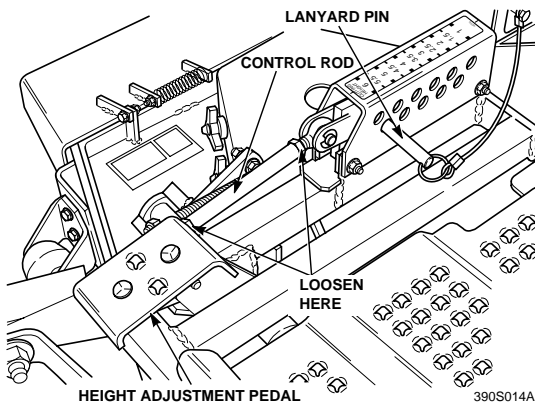
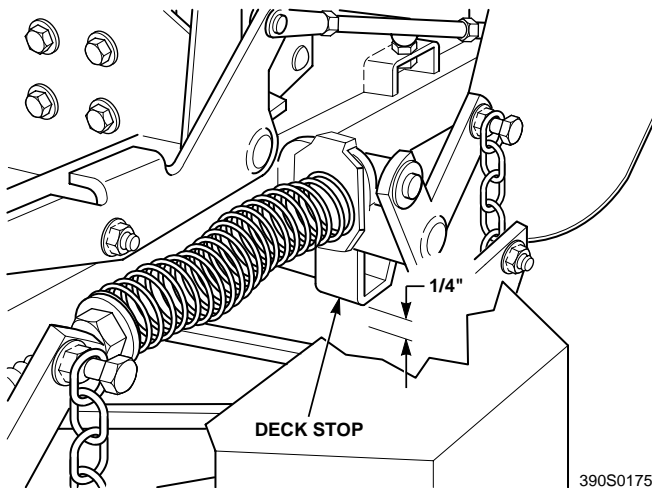

Figure 6-6. Cutter Deck Height Adjustment
Figure 6-7. Cutter Deck Stop
1. Place the cutter deck in the transport position. Loosen the jam nuts on both ends of the deck height control rod. (See Figure 6.6)
2. Turn the control rod (See Figure 6.6) until there is a 1/4" space between the rear deck stop and the top of the cutter deck. (See Figure 6.7). Tighten the jam nuts on the control rod.
4. Check the measurement from the floor to the cutter blade tip. If the measurement is not at 3", an adjustment can be made using the deck height control rod. (See Figure 6.6)